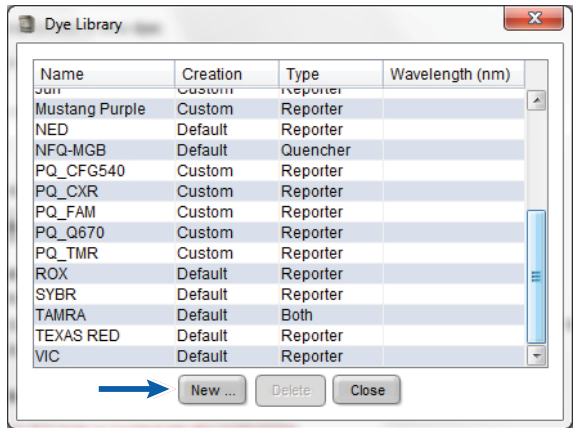

Figure 3. The New button in the 'Dye Library' window.
8. In the 'Dye Library' window that appears, select the **New** button (Figure 3).